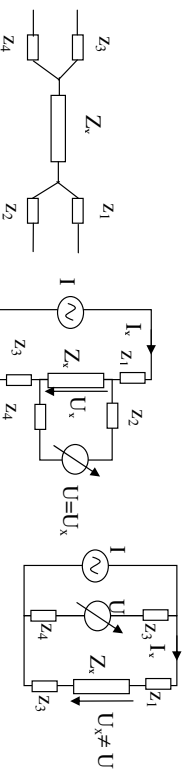

Figure 2a: The Quadripolar Model
a) Connect the unknown value resistor at the probes of the LCR-meter. Observe that the adapter connected to the LCR-meter uses 4 plugs, the measurement being quadripolar, each of the two crocodile clips connecting 2 plugs at one terminal of the unknown impedance, as in figure 2a. The settings are the ones from point 1 (return to the display mode -> **VALUE**). Write down the value indicated for the resistance.